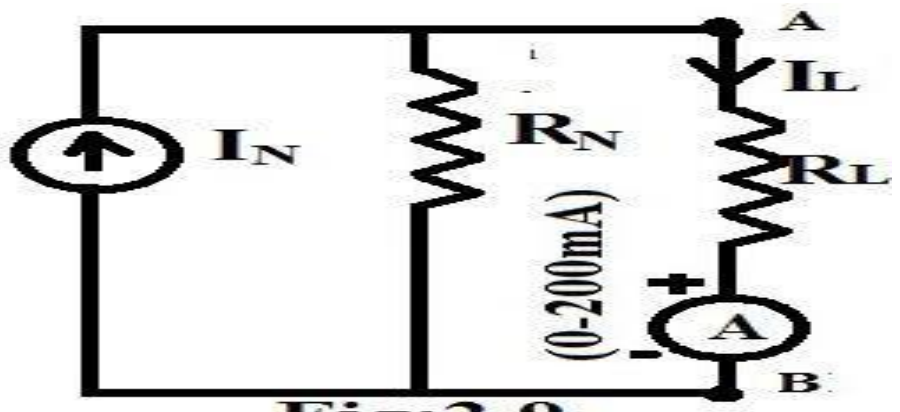

Fig:2.9
3. Verify the Norton's Theorem by finding the load current with Norton's Equivalent circuit as shown In Fig: 2.9.